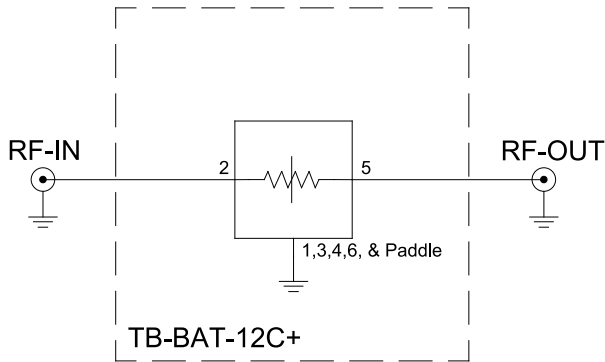

Figure 2. BAT-12+ Characterization and Application Circuit.
1. Tested on Mini-Circuits Characterization Test/Evaluation Board TB-BAT-12C+. See Figure 2. Board loss de-embedded to the device.